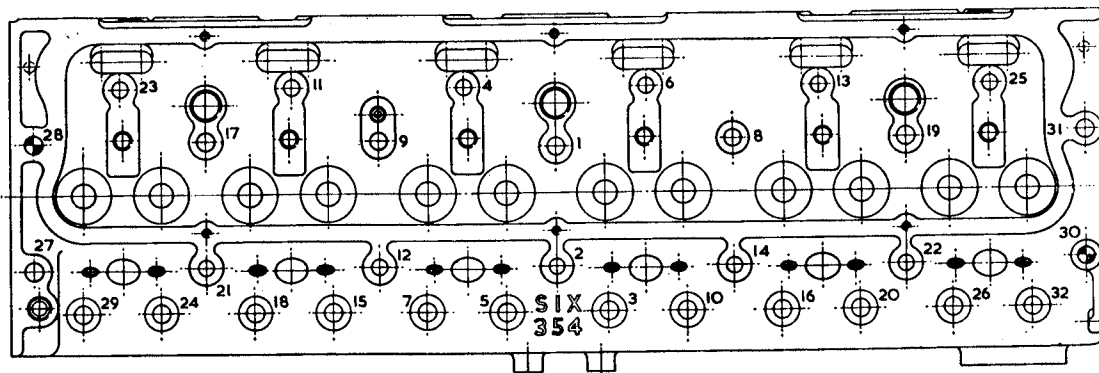

Fig. E.13. Cylinder Head Tightening Sequence.
2. Fit cylinder head to cylinder block. Lightly oil nuts and studs before fitting. Tighten cylinder head nuts progressively in three stages in the order as shown in Fig. E.13, until a torque of 60 lbf ft (8,30 kgf m) for  $\frac{7}{8}$  in studs or 100 lbf ft (13,8 kgf m) for  $\frac{1}{2}$  in studs is achieved. The final stage should be repeated.
2. After warming through, the engine should be shut down and the cylinder head nuts again tightened to the correct torque and in the correct sequence, as shown in Fig. E.13.